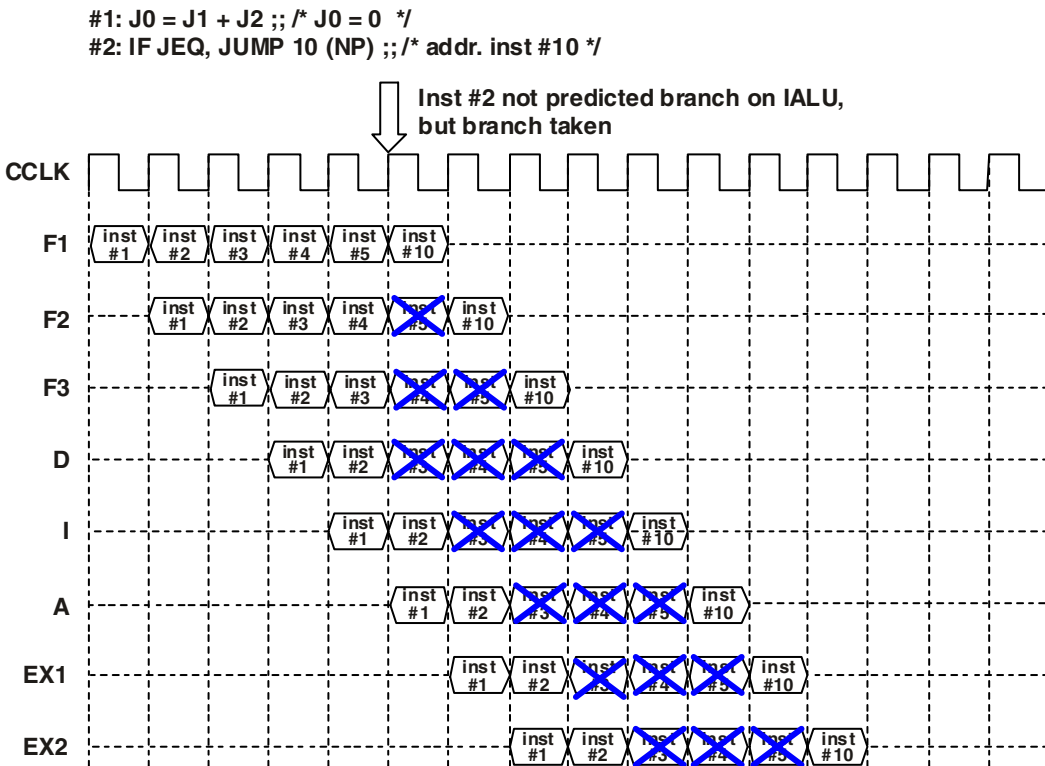

Figure 7-28. Not Predicted (NP) Branch Based on IALU Condition—Branch Taken
Figure 7-28 shows a not predicted (NP) branch that is based on an IALU condition. Because the branch is incorrectly predicted as not taken, the pipeline contents are not continuously executable (three pipeline stages voided), and there are three lost cycles (branch cost). Note that the pipeline evaluates the IALU condition (JEQ flag set by instruction #1) when the conditional instruction reaches the Integer (I) pipeline stage. From this evaluation, the pipeline determines how many pipeline stages to void.